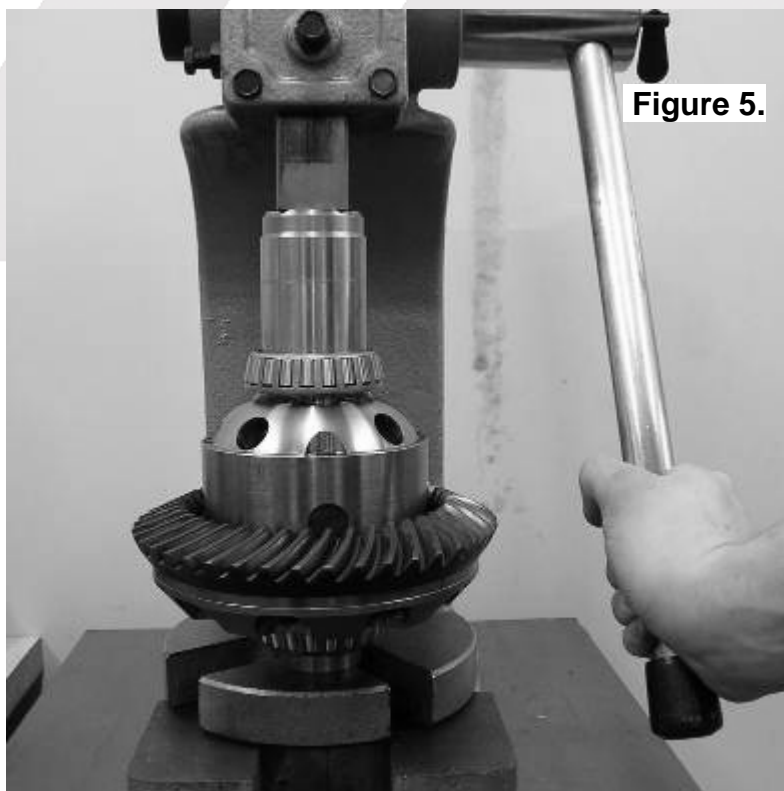

Figure 5.
- ☐ Apply a thin film of high pressure grease to the bearing journals of the *Air Locker*, then press the bearing cones onto the bearing journals as shown in Figure 5.